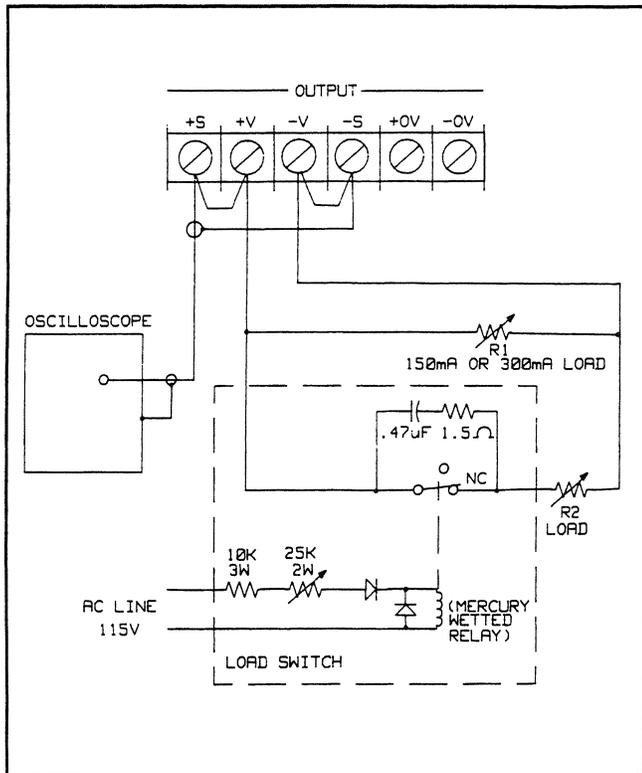

Figure 3-8. Transient Recovery Time Test Setup
- Turn off the supply and connect the output to be tested as shown in Figure 3-8.